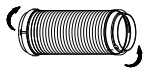

Fig. 16a
1. Install the adaptor B and adaptor I onto the exhaust hose as shown in Fig. 16a or Fig. 16b. Refer to the previous pages for window kit installation.